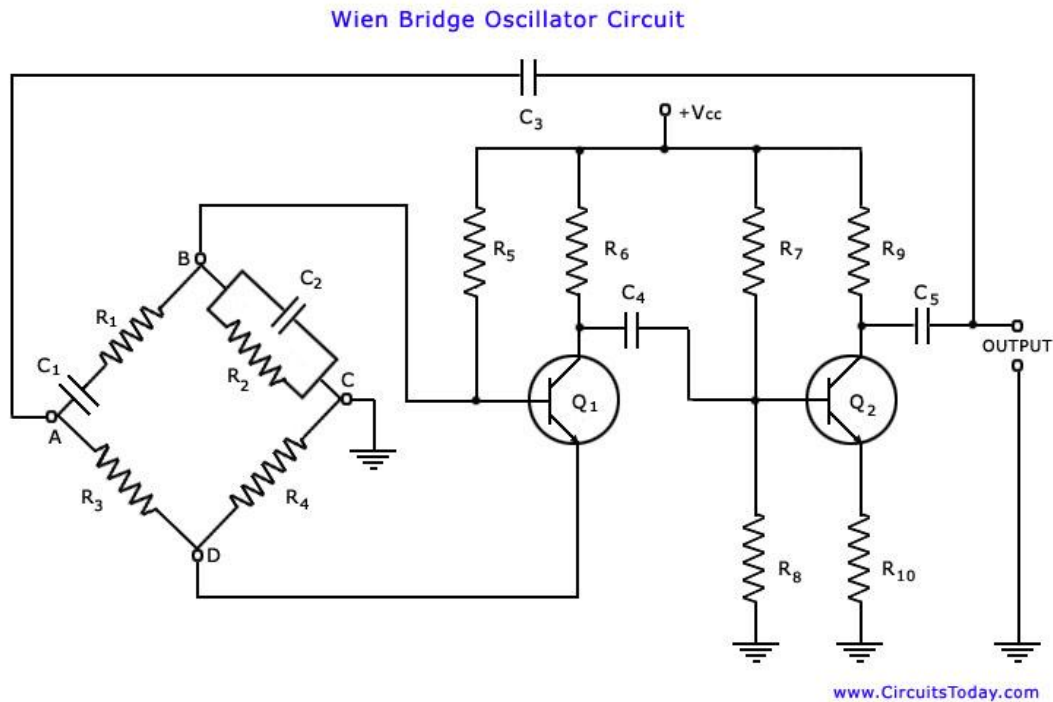

Fig. 3: Wein bridge oscillator
- 1) Complete the circuit as shown in Fig. 3, by connecting the R-C bridge provided on panel of the trainer.
- 1) Complete the circuit as shown in Fig. 3, by connecting the R-C network provided on panel of the trainer.